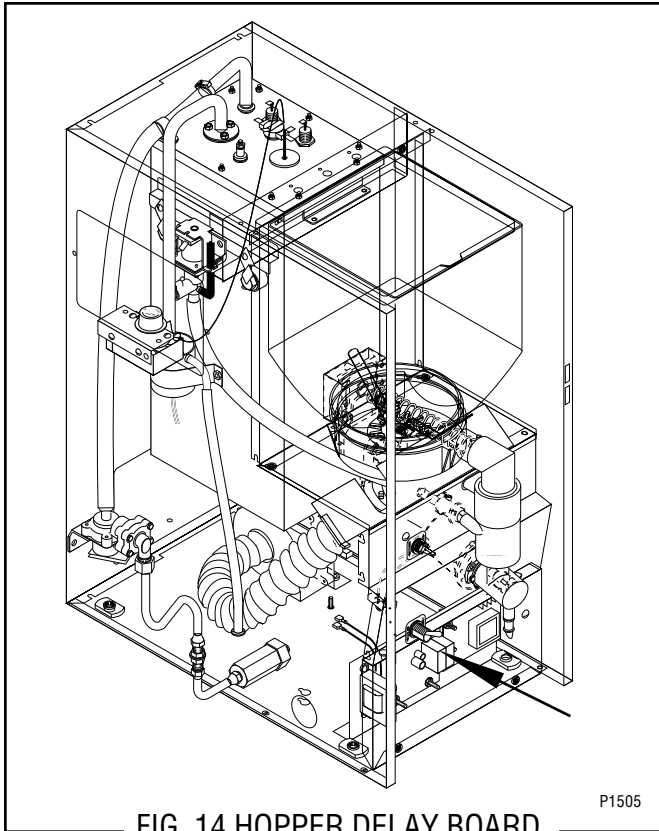

FIG. 14 HOPPER DELAY BOARD
7. Remove dispense tip (3) and twist the whipper chamber (4) clockwise and pull it off the whipper chamber receptacle (8).
8. Pull the frother (6) off the motor shaft. Notice the flat side on the shaft and the matching flat inside the frother. It is important that these two flats are lined up when reassembling.
9. Slip the O-ring (5) off the whipper chamber receptical (8).
10. Remove the two #6-32 screws (7) securing whipper chamber receptical (8) to the front panel.
12. Slide teflon washer (9) and O-ring (10) off of the motor shaft.
13. Remove the two #4-40 x .25" screws securing the fan baffle(17) to the whipper motor mouting panel and remove fan baffle. Set aside for reassembly.
14. Disconnect the black leads on the whipper motor (12) from the main wiring harness.
15. Remove the two #8-32 acorn nuts (11) securing the motor (12) to the rear of front panel.
17. Install new motor (12) on rear of front panel and secure with two #8-32 acorn nuts (11) and connect black leads on the motor to the main wiring harness. Refer to Fig. 14 when reconnecting wires
18. Slide O-ring (10) onto the motor shaft to approximately 1/16" of the front panel.
22. Slide whipper chamber receptacle w/seal on to the motor shaft and secure to the front panel using two #6-32 screws (7).
23. Slip O-ring (5) onto the whipper chamber receptical